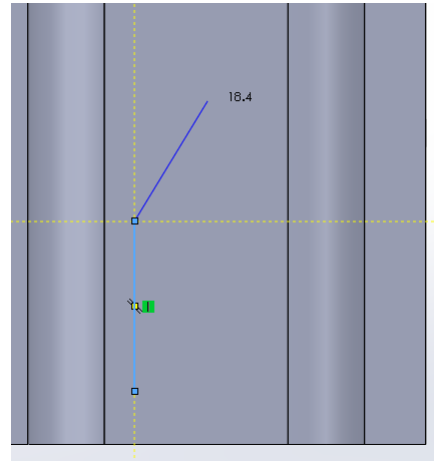
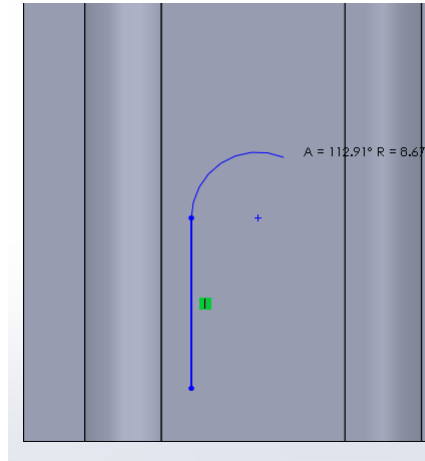

Fig22
Fig23
Select the *Line* tool and sketch a vertical segment! The rubberband shows the preview of the next segment (Fig22). Drag the rubberband back to its starting position and then move the pointer away – the current *Line* segment temporarily changes to a circular arc (Fig23).
- If the pointer leaves the starting point approximately in the direction of the previous segment the result will be a tangential arc (Fig23);